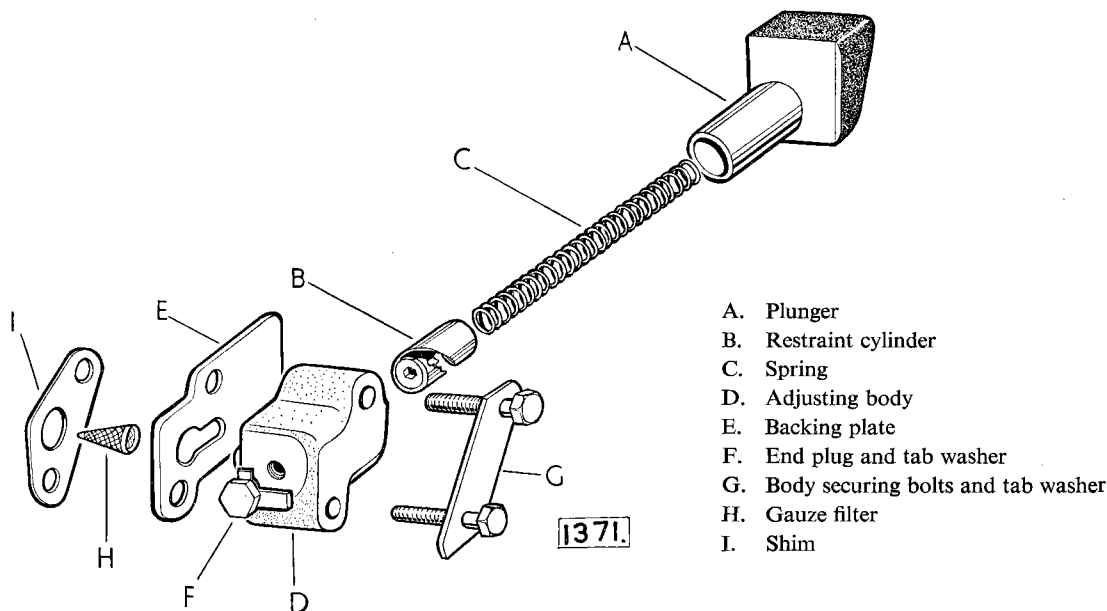

Fig. 56. Exploded view of the bottom chain tensioner.
The bottom timing chain tensioner is of hydraulic type and consists of an oil resistant rubber slipper mounted on a plunger (A, Fig. 56) which bears on the outside of the chain. The light spring (C) cased by the restraint cylinder (B) and the plunger, in combination with oil pressure holds the slipper head against the chain keeping it in correct tension.